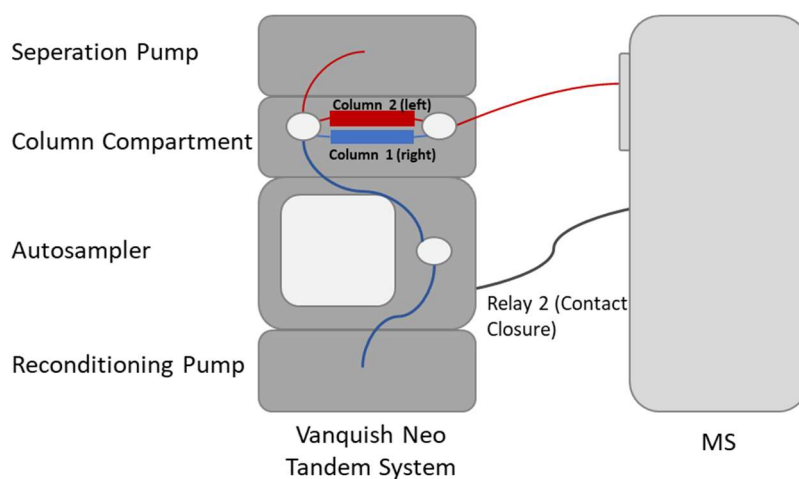

Figure 70: Schematic depicting the single spray source options. In this example “switching valve connected to detector -> right” has been selected
In this configuration, the two separation columns are situated between the two low-dispersion valves in the column compartment with a single outlet to the detector (see Figure 70). The single source configuration is supported for nano/cap (using 20µm I.D. capillaries) and micro-flow (using 50µm I.D. capillaries) fluidic regimes.
Mass spectrometer acquisition is triggered by using contact closure cable (P/N 6000.1004) attached to the Autosampler Relay 2 (See Figure 70).
Figure 70 shows the detector (MS) located on the right hand side of the LC stack. Here the option “Switching Valve Connected to Detector -> Right” was selected in the A00 script during workflow setup. If the detector (MS) is located on the left hand side of the LC stack, then selecting the option “Switching Valve Connected to Detector -> Left” guides the user to install all the fluidics in a mirror image format compared to that shown above.